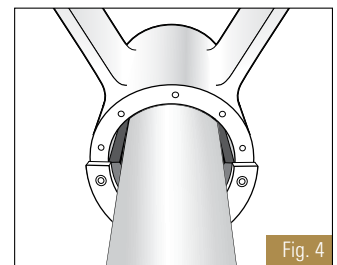

Fig. 4
5. **Carefully install and position the shaft** (upper half of bearing is not yet in place, providing ample clearance for moving and positioning the shaft). (Fig. 4)